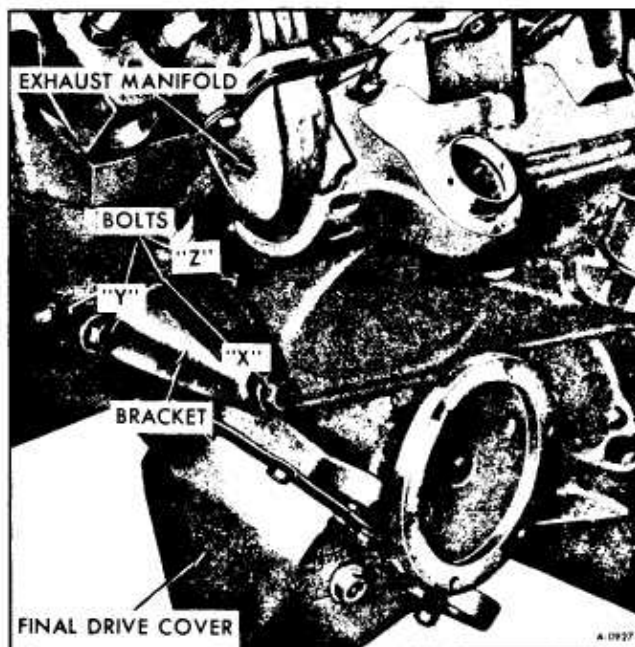

Figure 58—Disconnecting Final Drive From Engine
13. Remove bolt "Z". (See figure 58).
14. Remove three (3) bolts that secure the converter to the flywheel.
7. Referring to Figure 58, install bolt "Z" and torque to 105 ft. lbs.